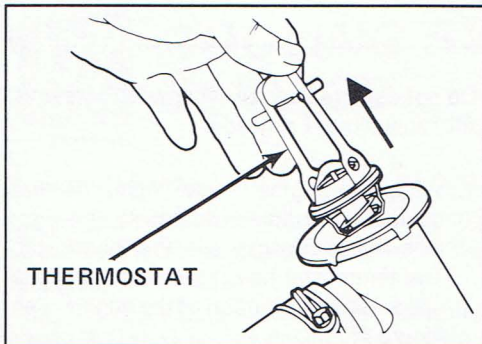

Figure 2 - Thermostat being removed
4. Pull the thermostat straight out. See Figure 2